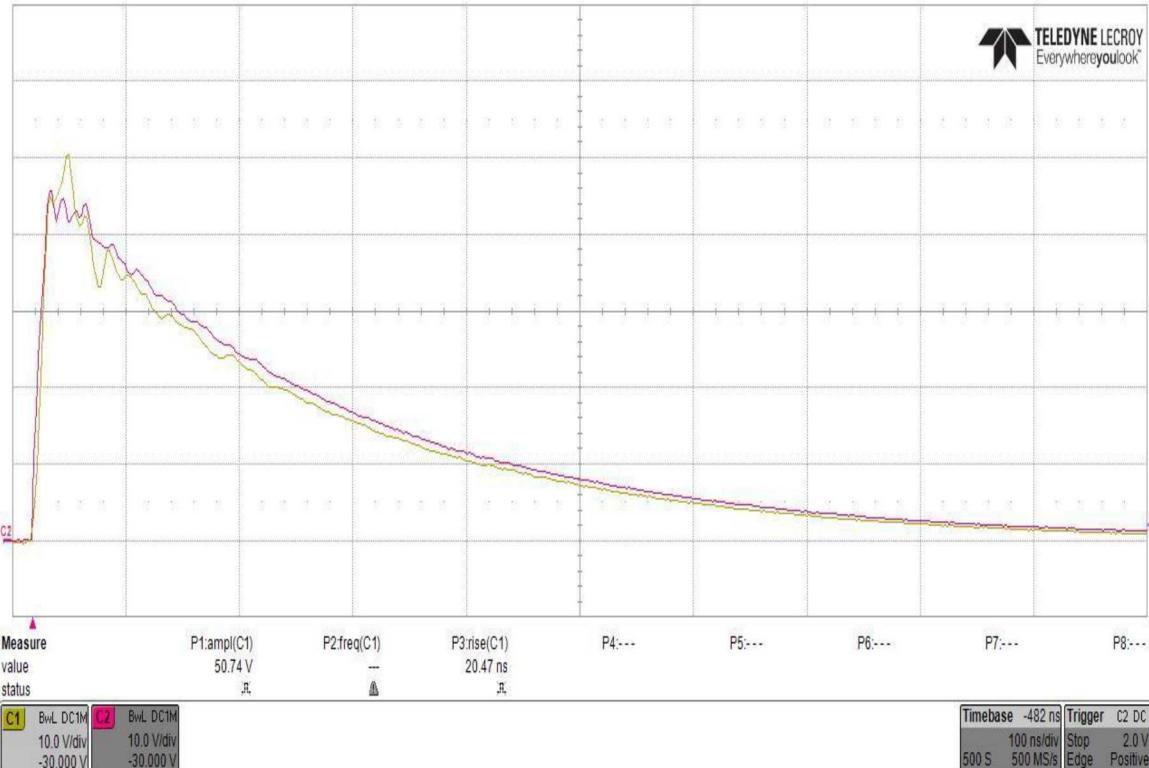

Figure 3. CVR and CVT Comparison Example
24. Verify that the Channel 2 CVR output is approximately equal to the Channel 1 CVT output. This is a visual verification that the system is operating correctly and should line up within 5%. See Figure 3. Store the CH1 and CH 2 combined waveform as a Microsoft® Excel file on a USB stick and name the file with the Pearson Model 4100 Serial Number, date, and pulse number. The CH1 data will be archived but not reported or used for the calibration certificate.